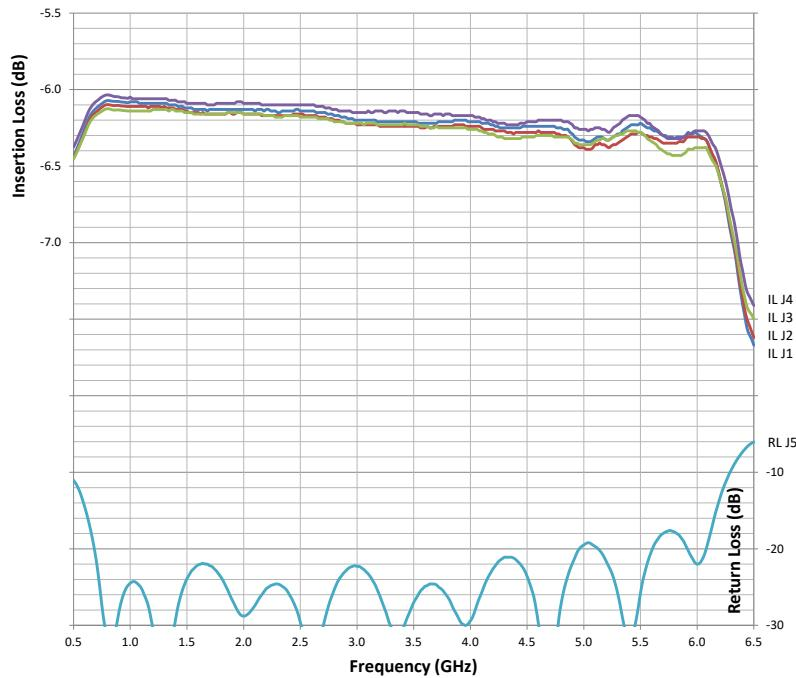

Figure 4-5. Typical 4-Way Splitter Insertion Loss and Return Loss
5. A typical Four-Way Splitter insertion loss is shown in Figure 4-5. The unused ports must be terminated when checking the insertion loss. Typical combined port return loss is shown in Figure 4-5.